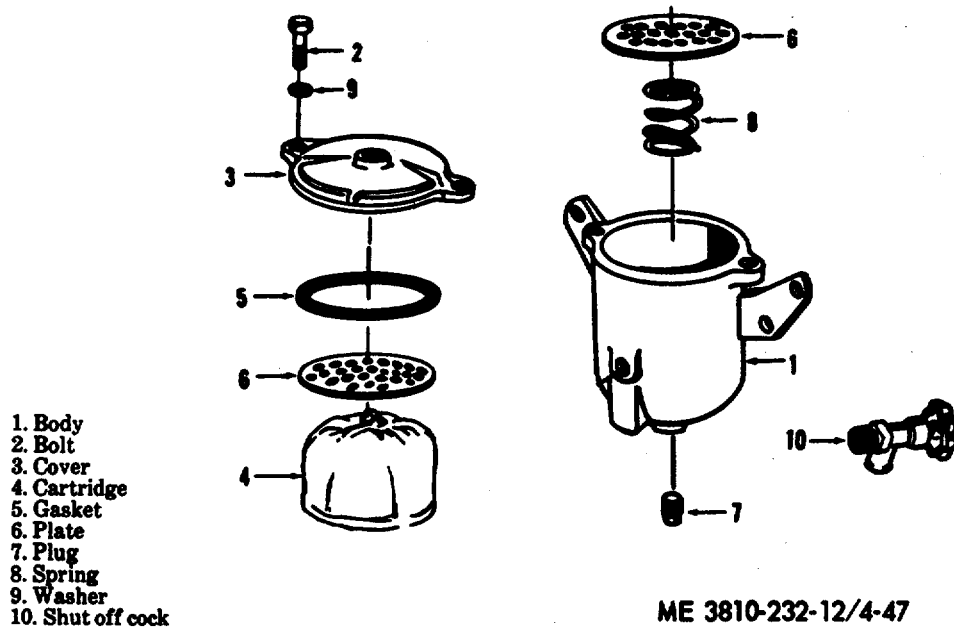

Figure 4-47. Carrier engine cooling system water filter, disassembly and reassembly.
(2) Disassemble the water filter as illustrated in figure 4-47.
(1) Reassemble water filter as illustrated in figure 4-47.